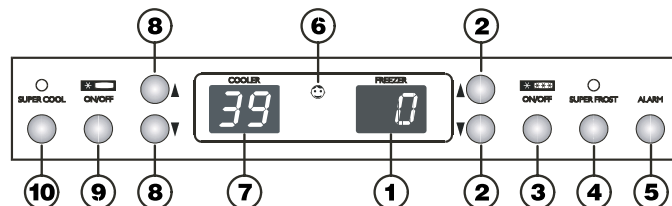

Figure 3
## Childproof Lock - Figure 3
## Temperature Display - Figure 3
## Audible alarm signal - Figure 3
## Power Failure/Frost-Control Display - Figure 3
## Supercooling - Figure 3
- Press the buttons "Alarm" (5) and "Temperature up" (8) simultaneously for 3 seconds. The display then shows "On". (Fig. 3)
- Press the buttons "Alarm" (5) and "Temperature up" (8) simultaneously for 3 seconds. (Fig. 3) The display then shows the actual temperature of the refrigerator and of the freezer compartment.